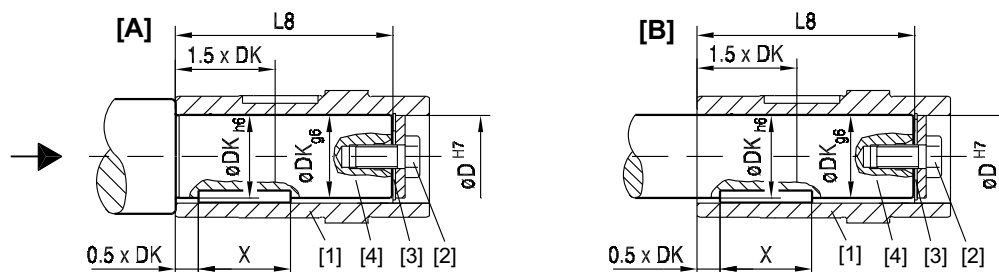

Figure 3: Customer shaft with contact shoulder (A) and without contact shoulder
• Always use the supplied NOCO[®] fluid for assembly. The fluid prevents contact corrosion and facilitates subsequent disassembly. • The key dimension X is specified by the customers, but $X > DK$ must apply, see Figure 3.